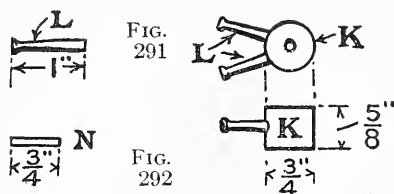

FIG. 290. — Turret and Guns
The Gun Turrets (K, Fig. 282) are small pieces of dowel-stick (Fig. 290).
The Main-Battery Guns (L), mounted in holes bored in the sides of the turrets (Fig. 290), are small pieces of dowel-stick cut of the shape shown in Fig. 291. Drill a small hole through the center of the ends of each turret, through which to drive the nail pivot *M* (Fig. 282).
FIG. 290 Spool Wheels (*P*, Fig. 282), cut the stick axles *Q* to fit snugly in the spool holes, and support the axle ends with screw-eyes *R*, screwing these into the hull.